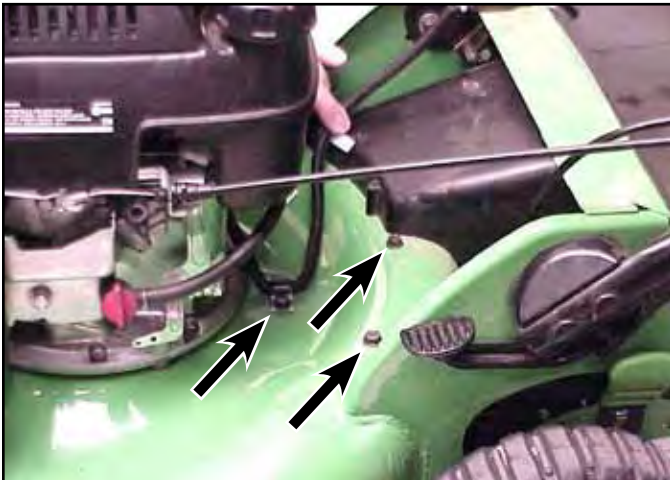

Fig 091 MVC-286Xa
3. Remove the 3 belt cover screws (Fig. 091).